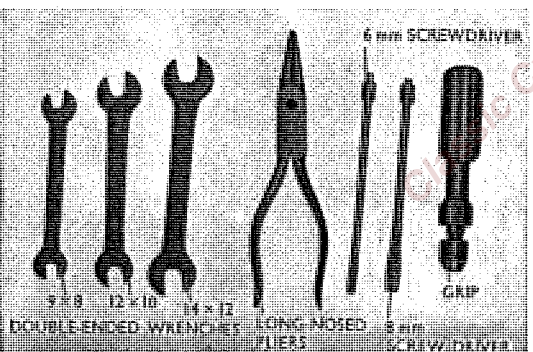

Fig. 6.19 Tools required for cleaning and adjustment of the carburetor
- a. Tools required for cleaning and adjustment of carburetor. (Refer to Fig. 6.19)